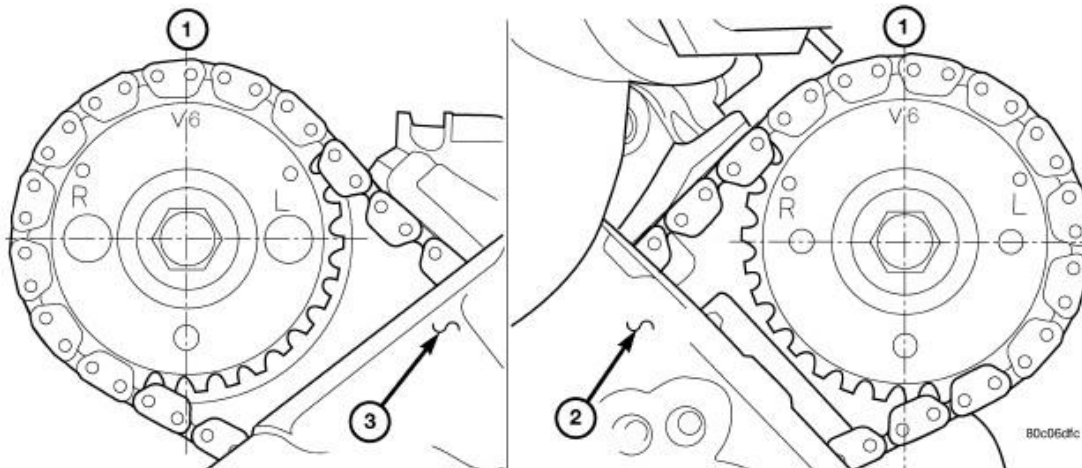

Fig. 50: Camshaft Sprocket V6 Timing Marks
12. Verify the V6 mark on the camshaft sprocket is at the 12 o'clock position. Refer to **Fig. 50**. Rotate the crankshaft one turn if necessary.